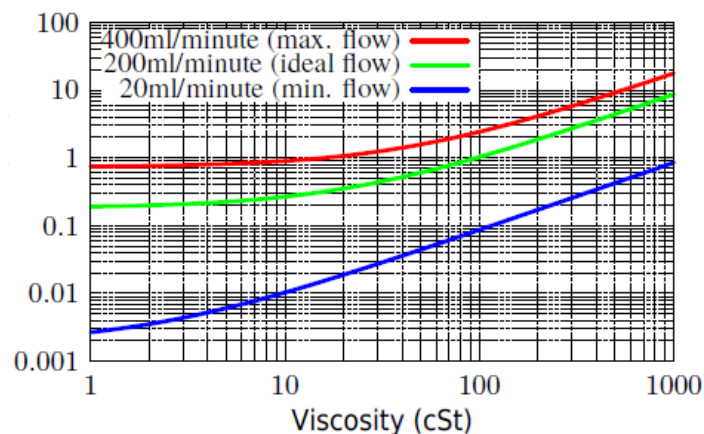

Figure 6.11 Differential Pressure vs Fluid Viscosity, for various flow rates
- Use the figure 6.11 to look up the pressure drop, across the LPM ports, at this flow rate and viscosity. E.g. at 30cSt and 200ml/minute, this is 0.4 Bar. The maximum and minimum allowed differential pressures can also be determined using the 400ml/min and 20ml/min lines, respectively.